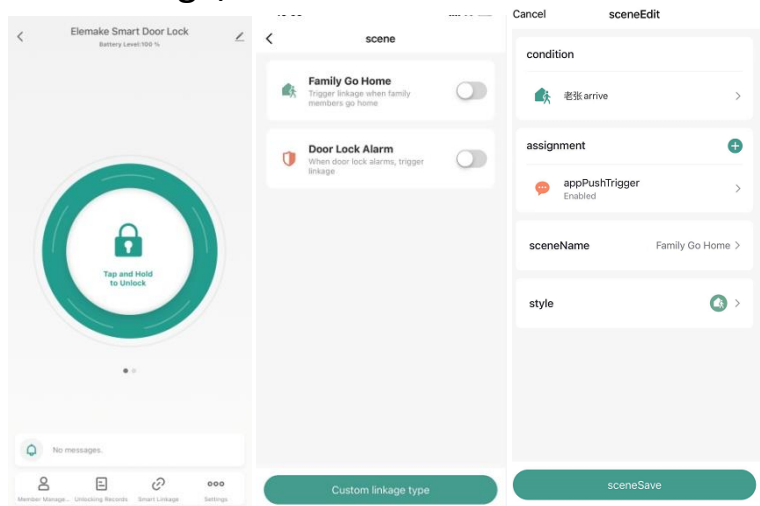

Figure Q-4
(4) Go home alert/door abnormal alert. (See Figure Q-4)